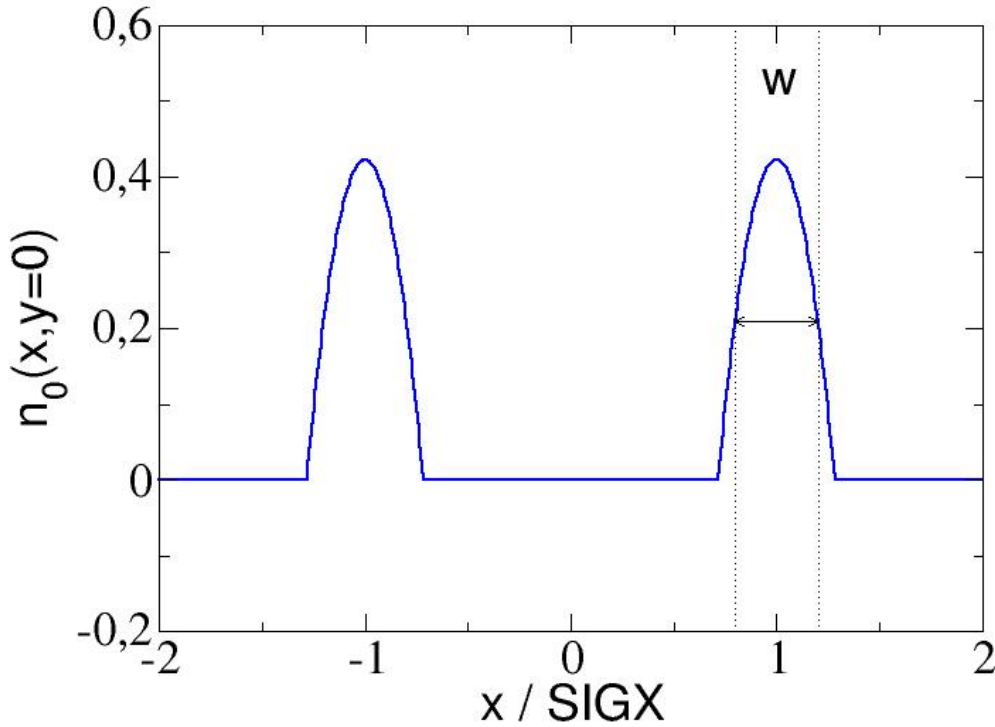

Figure 10.3: Hollow parabolic shape of radial density for beam-beam lens.
- **BBSHAPE=3:** hollow-parabolic shape (see fig.10.3). **SIGX**, **SIGY** are the distances from the centre to the maximum of the parabolic density profile in horizontal and vertical directions. Only circular opposite beam is possible, *i.e.* in the calculations $SIGX' = SIGY' = (SIGX + SIGY) / 2$ is used, if **SIGX** and **SIGY** have different values. **WIDTH** denotes the full width at half maximum of the parabolic density